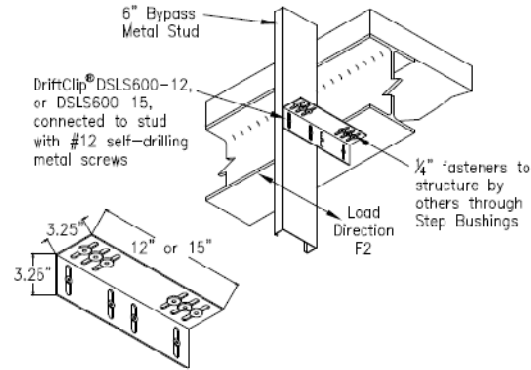

Figure 2 – DriftClip® DSLS600-12 and DSLS600-15
**3.1.3 DriftClip® DSLS:** DriftClip® DSLS600-12 and DSLS600-15 are L-shaped angles that connect 6-inch-deep (152 mm) cold-formed steel framing of exterior curtain walls to a building's structural steel spandrel beam or structural concrete floor slab, while allowing a maximum of 2 inches (51 mm) of vertical and horizontal movement between curtain wall elements and the primary structure. The minimum base-metal thickness of the clips is 0.0966 inch (2.5 mm). The -12 and -15 following the model number DSLS600 represent the total length, in inches, of the connector. The two legs of the DriftClip® DSLS600-12 and -15 connectors are equal in length, and each has two or three slots perpendicular to the heel of the angle, each  $\frac{3}{8}$  inch (9.5 mm) wide by  $2\frac{3}{8}$  inches (60 mm) long. The leg which is fastened to the curtain wall stud has bushings designed for No. 12 self-drilling/self-tapping steel screws installed in the centers of the slots. The other leg, which is fastened to the structure, has bushings designed for  $\frac{1}{4}$ -inch-diameter (6.4 mm) fasteners installed in the centers of the slot. Refer to Figure 2 for overall dimensions of each DriftClip® DSLS connector and a typical installation detail.